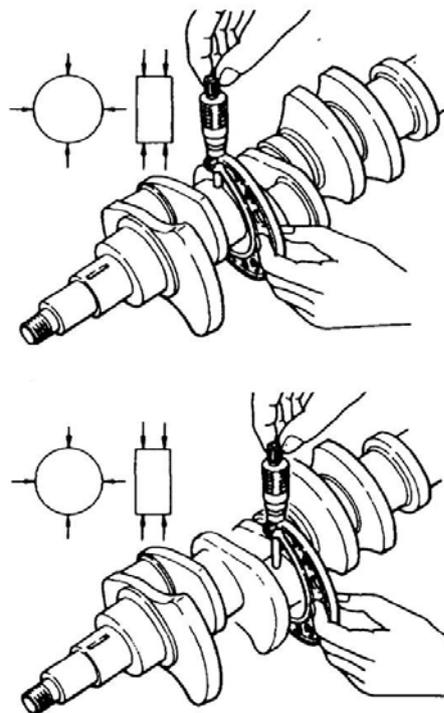

Figure 24 Measuring the Crankshaft Bearing Journals
- k.** If the crankshaft gear backlash was excessive, remove the gear using special tool 9-8521-0141-0 and with an external micrometer measure the bearing journals on the crankshaft (Figure 24). For the main bearing journals, the standard dimension is 79.000 to 79.925 mm (3.1102 to 3.1467 in). The connecting rod bearing journal standard dimension is 63.000 to 63.944 mm (2.4803 to 2.5174 in). Check each journal for taper and ovality. Discard the crankshaft if the wear exceeds the limits.